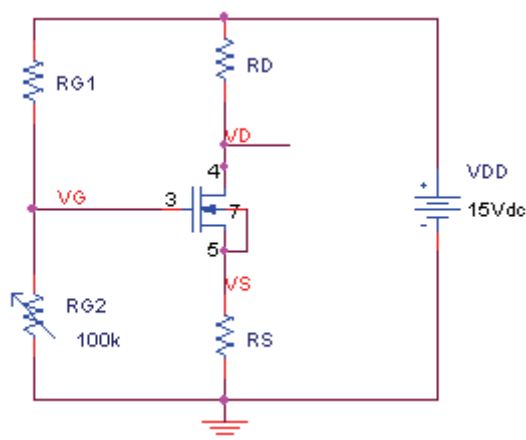
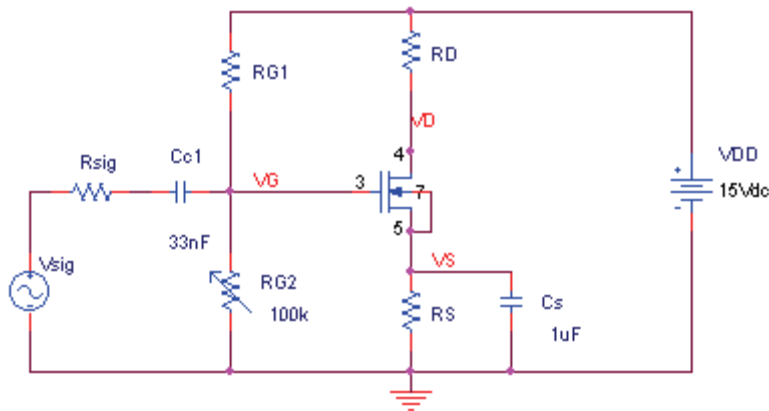

Figure 4: Biasing circuit of the common-source amplifier..
Figure 5: Common-source amplifier ( $R_{sig}$  is the internal resistor of the function generator and is about 50 Ohm).
- Build the circuit of Figure 4. Use the transistor between the pins 3, 4 and 5. Notice that we have connected the bulk (pin 7) to the source (pin 5) of the NMOS transistor. This can be done since we are only using a single NMOS transistor in the array. The reason for shorting drain-to-bulk is to eliminate the back-gate (body) effect on the threshold voltage. For the biasing resistor  $R_{G2}$ , use a 100 kOhm potentiometer.
- Modify the circuit of Figure 4 by adding the capacitors  $C_{C1}$ , and  $C_S$  as shown in Figure 5. Connect a sinusoidal input signal of 0.2V amplitude (0.4Vpp) and 5kHz frequency.